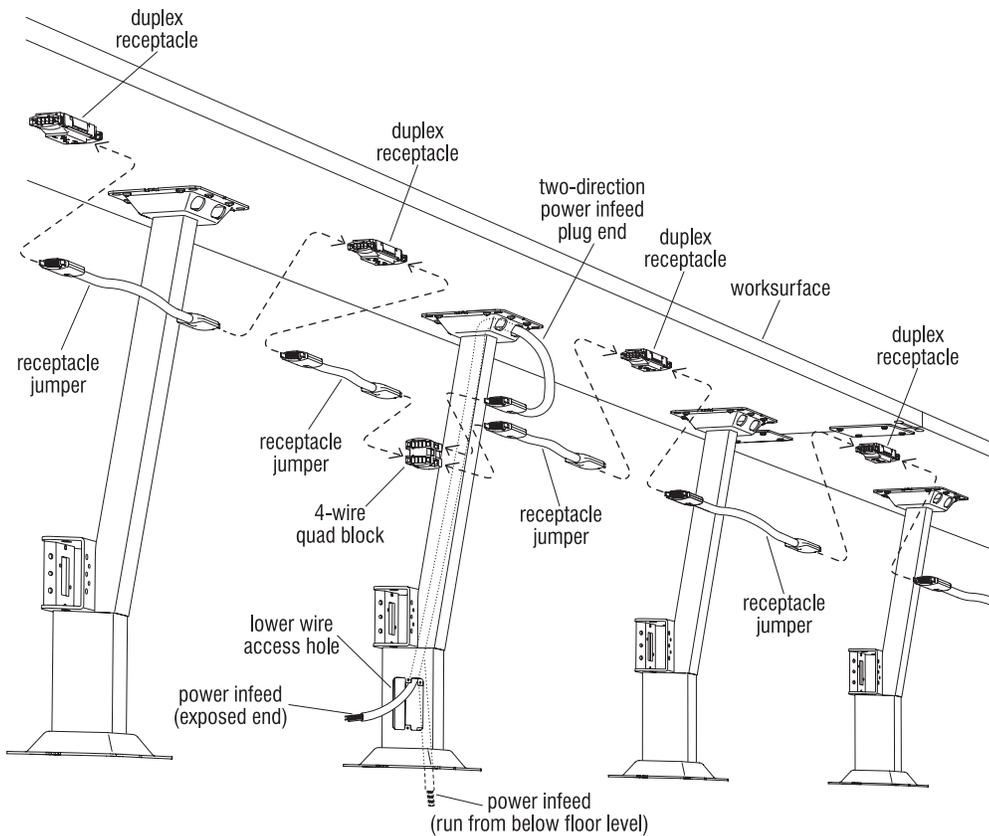

Figure 10 - Power Infeed Two-Direction
22. Reference the space-planning layout and determine the table base location for the two-direction power infeed. Check and assure that the duplex receptacles are installed correctly (Page 8, Figures 6 & 7). The ground prongs must be oriented to the side of the associated power infeed. For two-sided power infeed the receptacles will be oriented in different directions on each side of the power infeed. If below floor level power is to be run to the worksurfaces, the power infeed should already be in place. To install above floor level power infeed, run the exposed wires end of the power infeed through the oval cut-out in the worksurface mounting flange, down the table base column and out the lower wire access hole, then plug the connector end into the first duplex receptacle next to the power infeed (Figure 10).
24. Per the space-planning layout, locate the required quad block and plug the two-direction power infeed plug end into the quad block. Then locate the required receptacle jumpers and plug them into the installed duplex receptacles. At the quad block on the two-direction power infeed, two receptacle jumpers will plug into the quad block as illustrated (Figure 10).